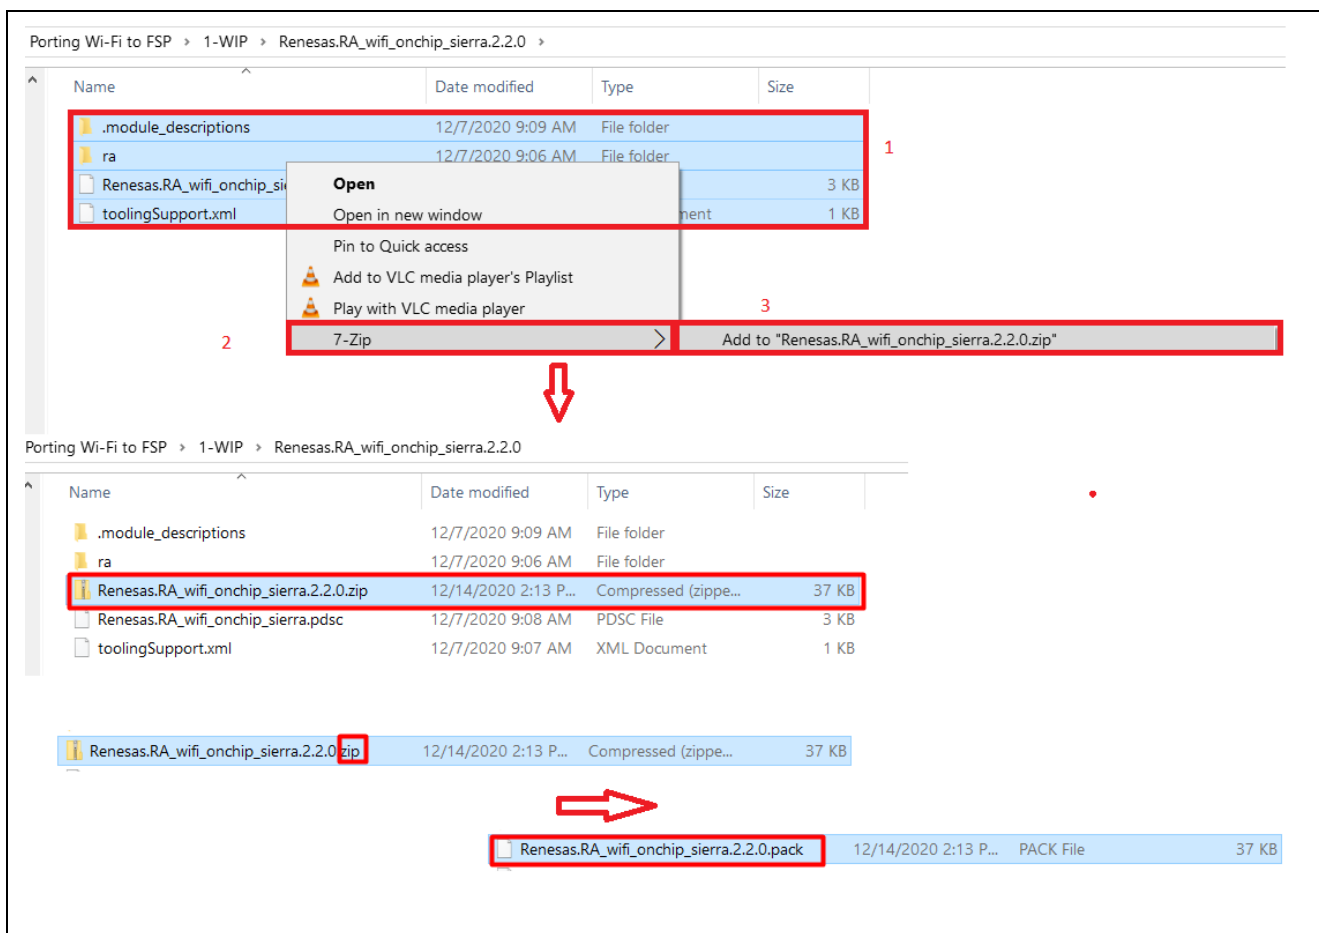

Figure 10. Pack creation from the zip file for the new Wi-Fi driver Pack
- After all the changes are in place, you need to create a zip file using the 7-zip utility. The method of creating the .zip file and later renaming as, .pack file is shown in Figure 10.